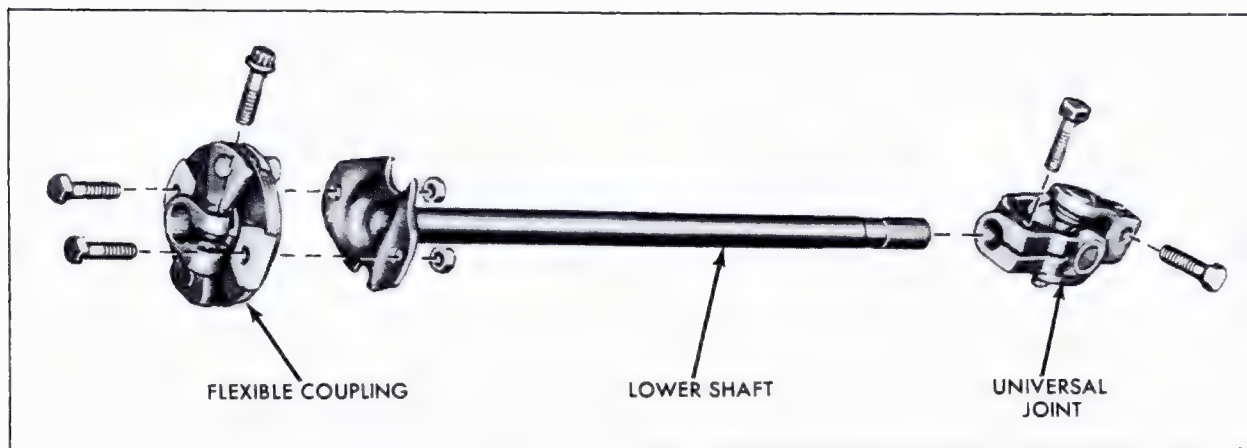

Fig. 9-59 693 - Lower Steering Shaft
26. Lower Steering Shaft (Fig. 9-59)**a. Removal**